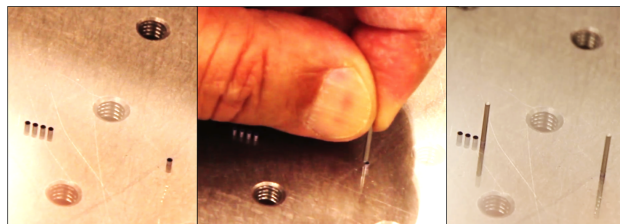

Figure 52: Insertion of the guiding pins.
Step 3: Put the guiding pins in place all around the trapezoid. Place pins in all the single holes, and in one of the grouped holes (Fig. 52).